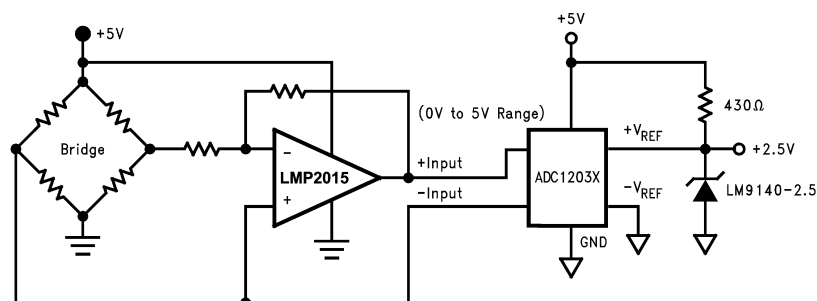

Figure 38. DC Coupled ADC Driver
The LMP2015 is a great choice for an amplifier stage immediately before the input of an ADC (Analog-to-Digital Converter) as an ADC driver, whether AC or DC coupled. See Figure 37 and Figure 38. This is because of the following important characteristics:
- E)** Rail-to-Rail output swing maximizes the ADC dynamic range in 5V single supply converter applications. Figure 37 and Figure 38 are typical block diagrams showing the LMP2015 used as an ADC driver.